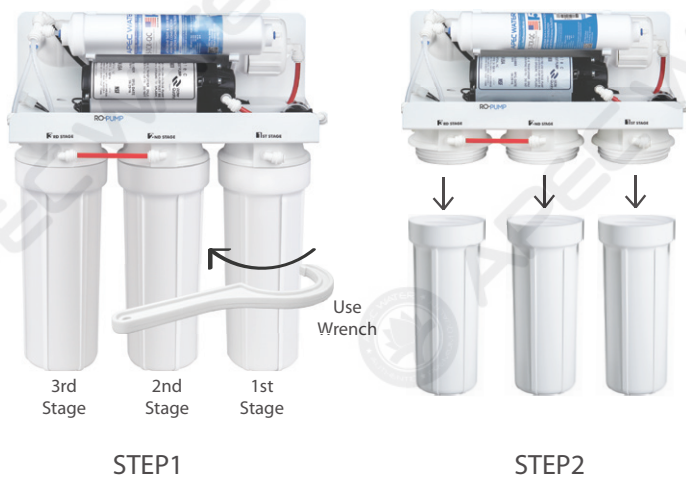

Fig. 14
- 2) **Open housing:** Have the RO standing upright. Slip the plastic wrench onto the 1st housing. Looking down from a top view, you should open the housing turning **clockwise**. If necessary, lay RO down on the floor to get a better leverage. If the housing is too tight, use a hammer and gently tap on the wrench handle to help turn the wrench. See **Fig.14 (Page 21)**. Please put a towel under the RO unit to help collect residual water during filter change.